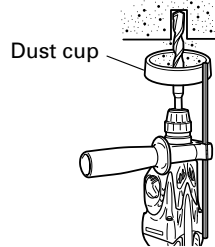
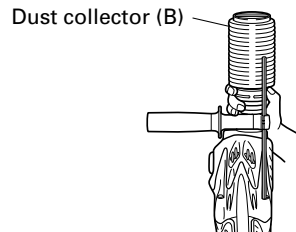

Fig. 4
Fig. 5
## 7. Installation of dust cup or dust collector (B) (Optional accessories) (Fig. 4, Fig. 5)
Use the dust cup by attaching to the drill bit as shown in Fig. 4.
When using dust collector (B), insert dust collector (B) from the tip of the bit by aligning it to the groove on the grip (Fig. 5).